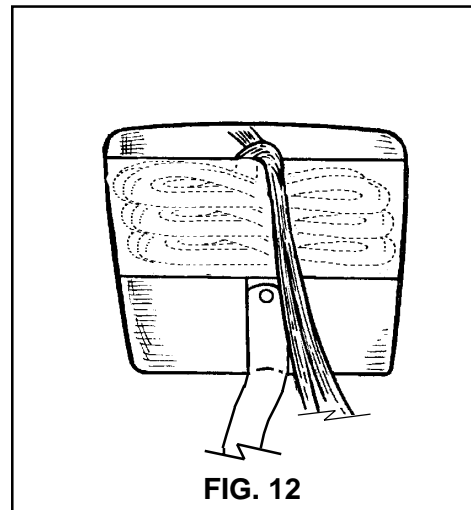

FIG. 12
12. After the two locking stows are made, stow the remainder of the suspension lines (to within 6" of the connector links) in the line-stow pouch on the back of the bag. This is where it is useful to use the velcro strips mentioned in the list of tools. Cover the hook velcro on the pouch with the strips of loop velcro while stowing the lines in the pouch. Make figure of 8 folds with the lines, the width of the pouch. To close the pouch, remove the strips of loop velcro and mate the velcro at the mouth of the pouch, being sure that none of the suspension lines are captured by the closure (FIG 12).